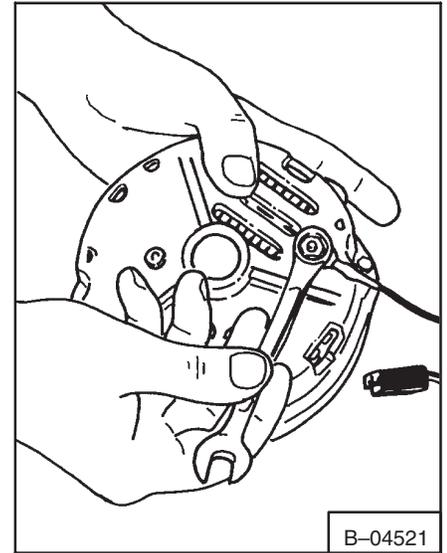

Fig. 6-25 Installing Wire
1. Connect the wire to the alternator (Fig. 6-25).